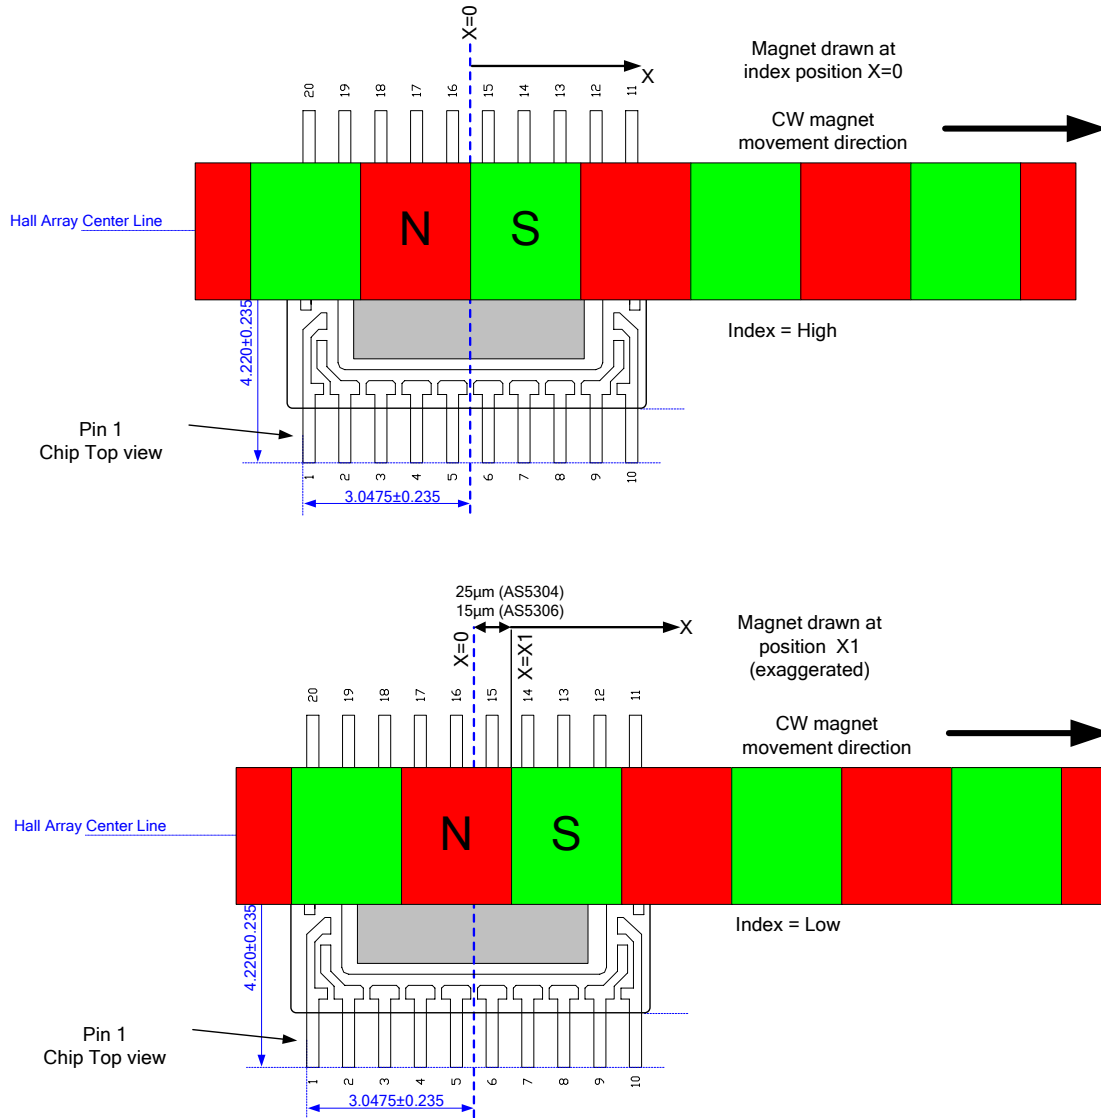

Figure 7: Magnet placement for index pulse generation
The Index output is switched to Index = high, when a magnet is placed over the Hall array as shown in Figure 7, top graph: the north pole of the magnet is placed over the left side of the IC (top view, pin#1 at bottom left) and the south pole is placed over the right side of the IC.
The index output will switch back to Index = low, when the magnet is moved by one LSB from position X=0 to X=X1, as shown in Figure 7, bottom graph. One LSB is 25µm for AS5304 and 15µm for AS5306.
*Note: Since the small step size of 1 LSB is hardly recognizable in a correctly scaled graph it is shown as an exaggerated step in the bottom graph of Figure 7.*